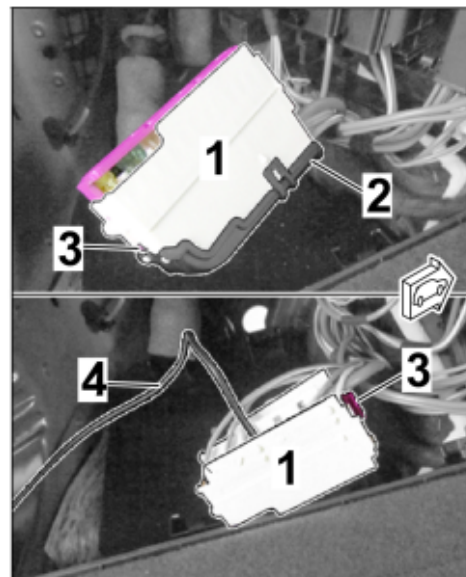

Figure 10
- 2.3.1 Remove fuse holder H (strip B – white) from the fuse box in the luggage compartment (⇒ *Workshop Manual '978409 Loosening and securing fuse box in the luggage compartment'* ⇒ **Figure 10 -top-**).
- 2.3.2 Release fuse holder H (strip B – white) and connect the lines (RD/GN and RD/YE) as follows (⇒ **Figure 10 -bottom-**):